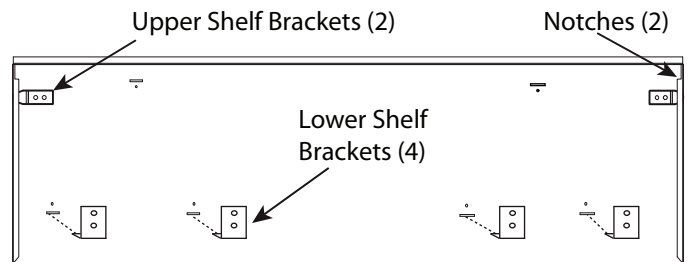

Figure 14: 48" Back of Wall Plate
2. Mount the (2) upper shelf brackets and the (3) lower shelf brackets on the 30" & 36" models or (4) lower shelf brackets for the 48" model at the locations outlined on the templates. Secure with (10) 1" (25.4 mm) screws provided.
5. Install the wall plate by setting the corner notches (back of wall plate) atop the (2) upper shelf brackets.
6. Slide the shelf upwards until the bottom engages with the (3) lower brackets on the 30" & 36" models or (4) brackets for the 48" models (Figure 14).